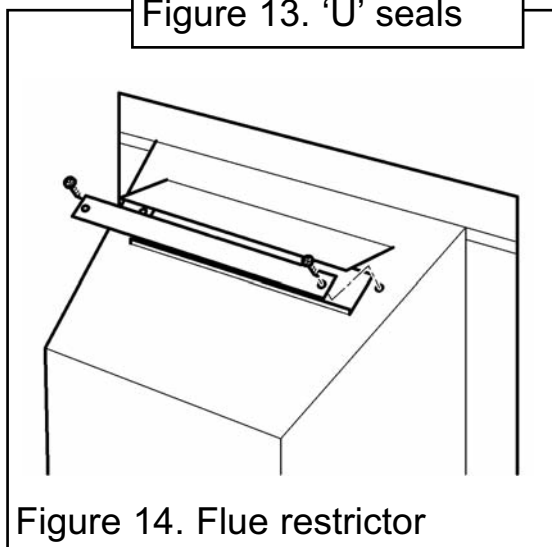

Figure 14. Flue restrictor
5. This appliance is supplied with a flue restrictor for use where the flue draught is excessive. The restrictor must NOT be fitted where a precast flue or a flue liner is used. For all other installations the restrictor should be fitted. There may however, be certain circumstances where fitting the restrictor causes the fire to fail the spillage test. In such cases the restrictor will have to be removed. After removal conduct the spillage check again. The restrictor is packed loose with the appliance and is fixed with two screws (See figure 14).